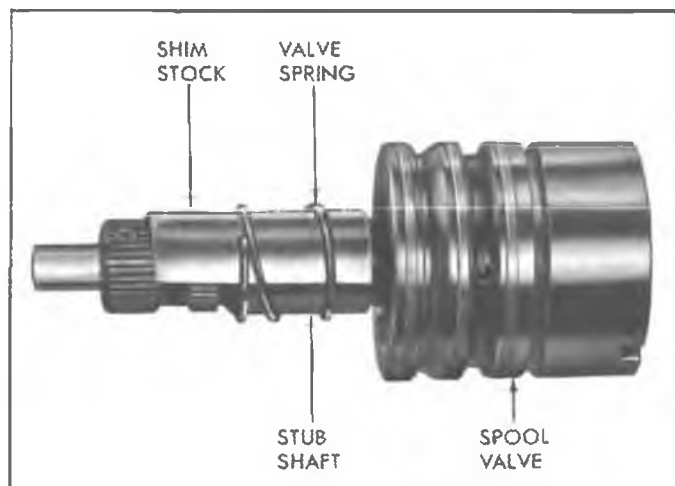

Fig. 46 - Installing Valve Spring
6. Slide the valve spring over the lower shaft and down into the spool valve until the top coil of the spring is in the shaft groove (fig. 46)